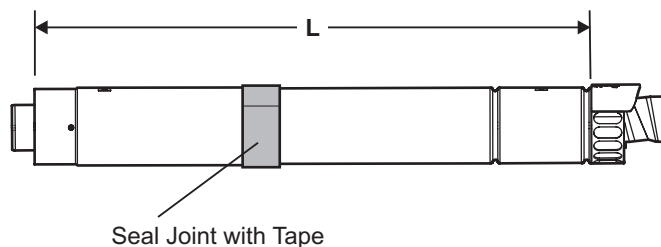

**Fig. 14**
**4.6 FIT THE FLUE - Figs. 14 and 15**
- When the flue length required is more than the maximum stated in Section 4.6, paragraph 1, refer to the table below and Figs 14 and 15.